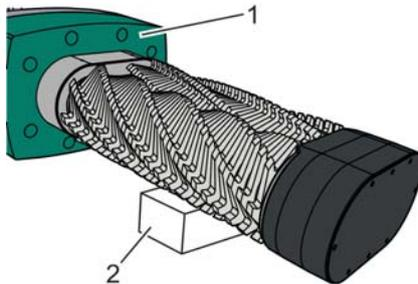

Fig. 72: Placing down the cutter block drive, example
5. **➔** Place the cutter block drive unit (Fig. 72/1) onto a suitable mounting surface with an appropriate load-bearing capacity with an assembly support (Fig. 72/2) as shown.